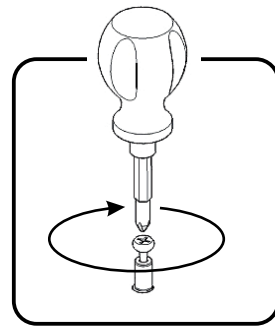

Figure 1
Insert Cam Lock Screws into pre-drilled holes in Top (A), Middle Panels (D), (E) and Plinths (J), then tighten. (See Figure 1)